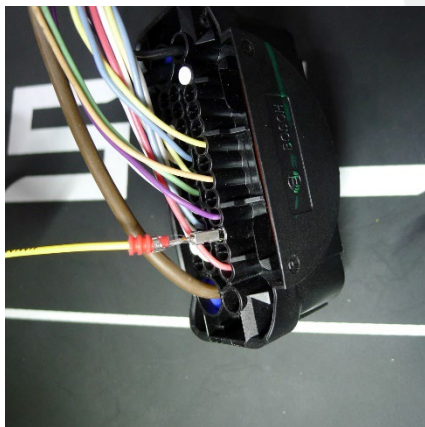
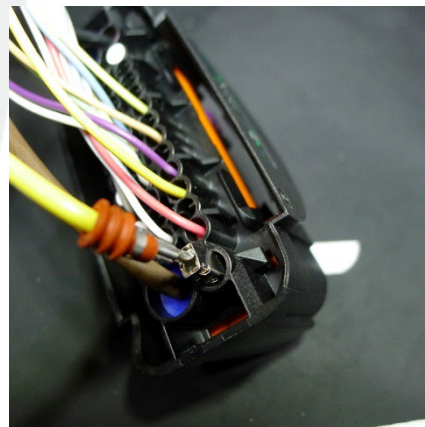

Figure 23
Figure 24
21. Insert the smaller terminal of the jumper into receptacle 28 (Figure 23) and the larger terminal of the jumper into receptacle 25 (Figure 24).